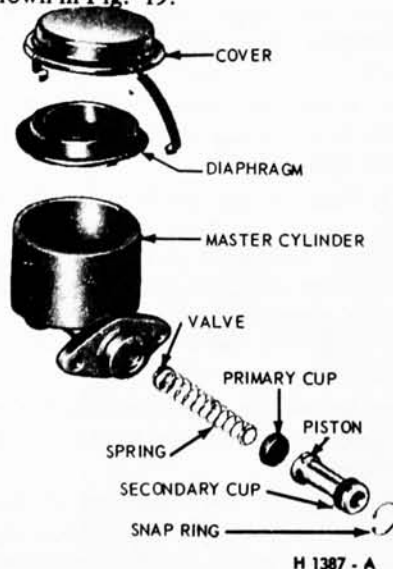

FIG. 19 — Master Cylinder — Disassembled
1. Press in against the piston removing the snap ring retainer, and then remove the piston assembly, cup, spring, residual check valve and seat (Fig. 19).
1. Clamp the master cylinder housing in a vise. Dip the hydraulic cylinder parts in brake fluid and assemble the check valve seal, residual check valve, and piston return spring in the bore of the cylinder in the order shown in Fig. 19.